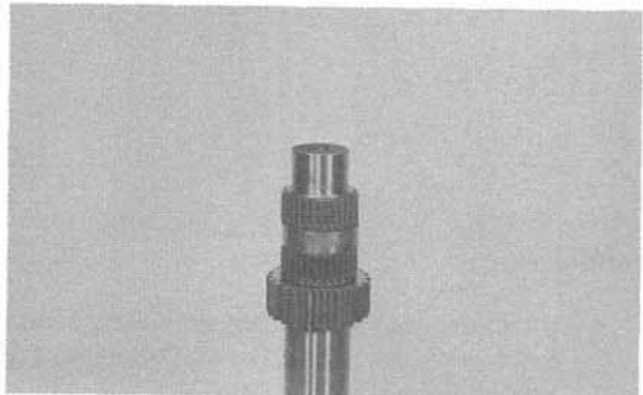
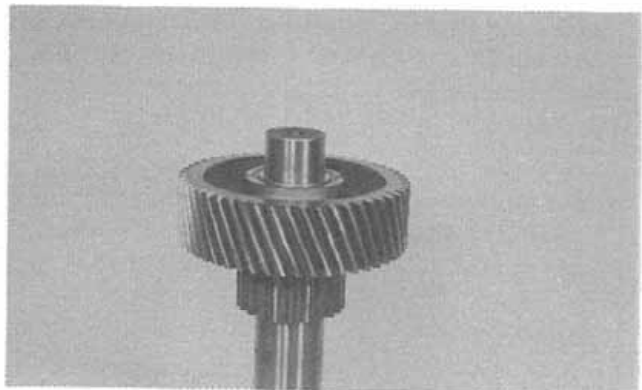

Figure 10:
Figure 11:
7. On the rear of the input shaft, install the needle bearings with a spacer between them (Fig. 10), the 51 tooth input gear (Fig. 11) and the thrust